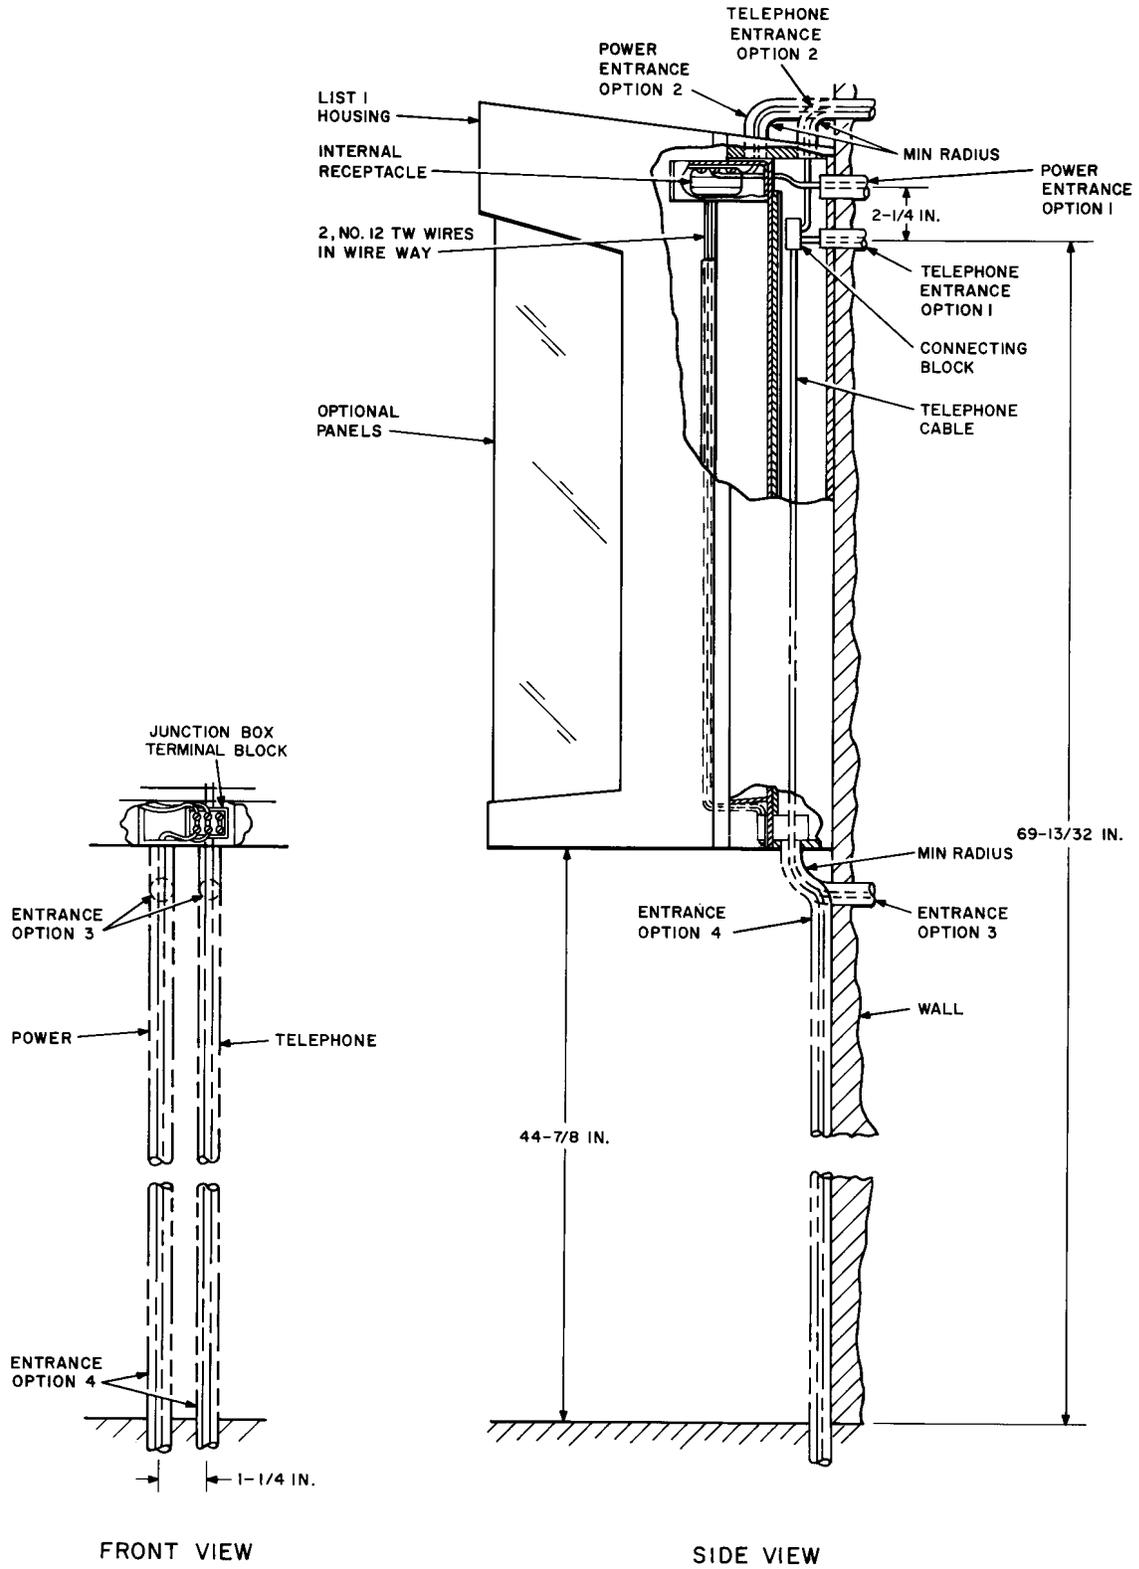

Fig. 12—Installation Requirements for Wall Mountings
- 2.23 Place support on the wall 45-1/8 inches from ground or floor. See Fig. 12 for installation requirements.
- 2.31 Place support on the wall 45-1/8 inches from ground or floor. See Fig. 12 for installation requirements.
Note 2: Wiring for a wall mounting may enter from the bottom of the housing, top of the housing, or from the back of the housing through the wall (Fig. 12).